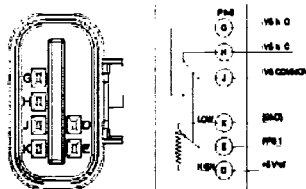

Figure 5: Connector view of ETC housing. Circuit drawn at Idle position.
4. Connect the ETC (Electronic Throttle Control) connector from the vehicle wiring harness [see Figures 5, 6 and 7].